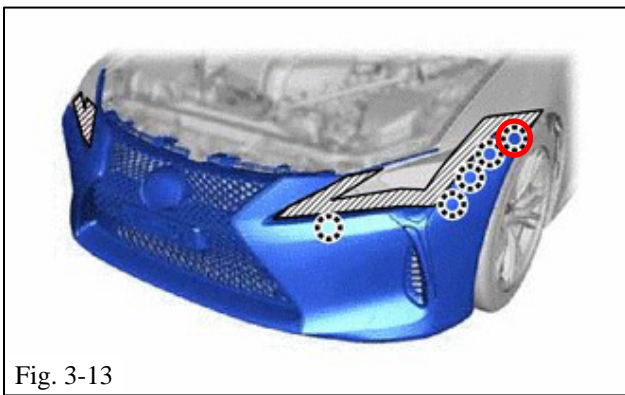

Fig. 3-13
-  (q) Fig. 3-13 shows the location of the claws that must all be disengaged to remove the front bumper.
-  (r) Slightly pull down on the bumper to expose the first claw (circled in red in Fig. 3-13). Use a pocket screwdriver covered in protective tape to unhook and disengage the claw (Fig. 3-14).